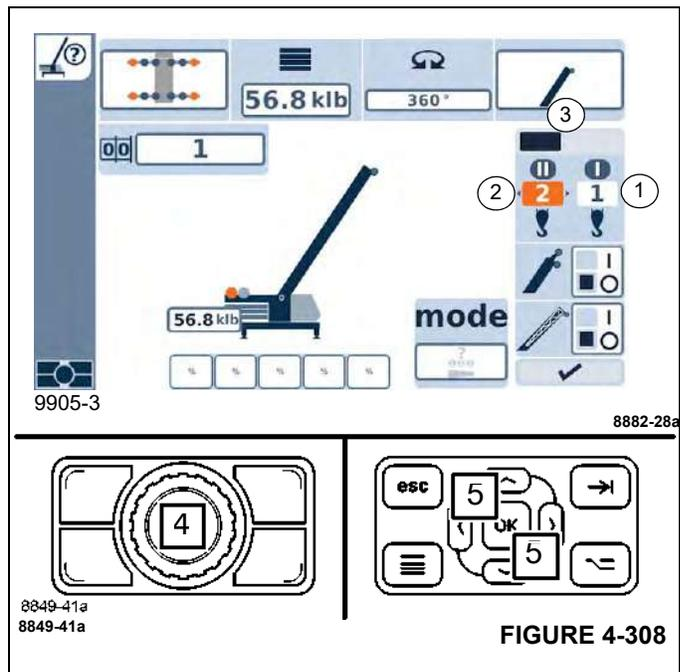

FIGURE 4-308
- Position the slider bar (3), (Figure 4-308) over the top of the hoist that is to be used. Example screenshot in Figure 4-308 shows the Auxiliary Hoist is selected.
- Use the buttons (4), (Figure 4-308) or (5), (Figure 4-308) to select the rigged reeving.